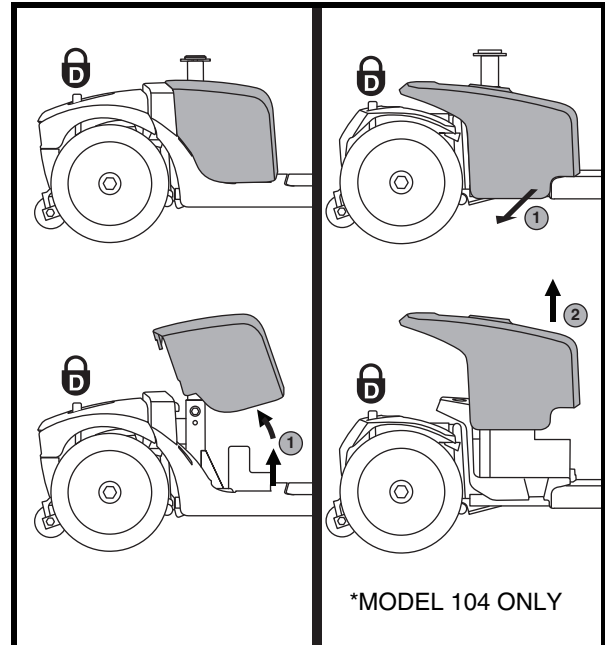

Figure 10. Battery Shroud Removal/Installation
1. Remove the seat and battery shroud. See **figure 10**.